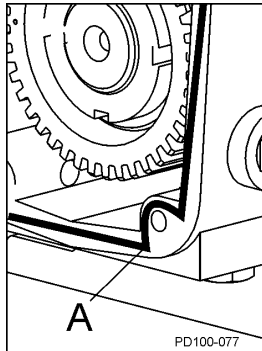

Figure 75 - Sealant Placement
4. Apply silicone sealant (A) to the back of the gear case. (Gore-Tex® sealing tape can be used on silicone-free models.) Place the tape on the inside of the screw holes (Figure 75, item A).